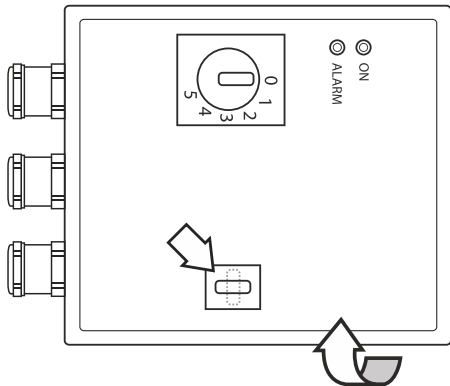

Fig. 2
- Open the device front panel (see Fig. 2);
- Fasten the controller to the mounting surface using mounting holes 6 in the rear wall of the unit (see Fig. 2);